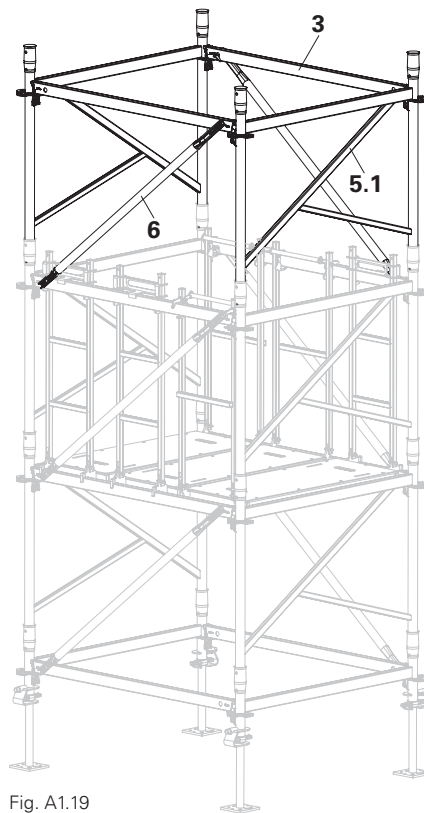

Fig. A1.19
1. Install additional frame planes as described in Section A1.4. (Fig. A1.19)